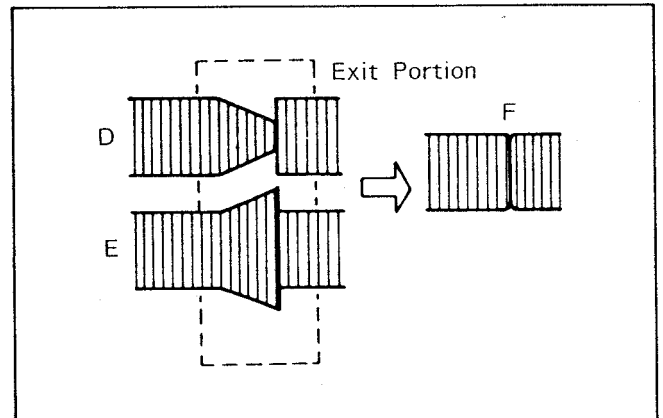

Fig. M10
6. If the RF envelope appears like example "D" or "E" in Fig. M10, then adjustment of the tape guide post (P3 : Exit) is necessary.
7. Adjust the tape guide post (P3) in the same manner as the P2 post so that the exit portion becomes flat as shown in "F" in Fig. M10.